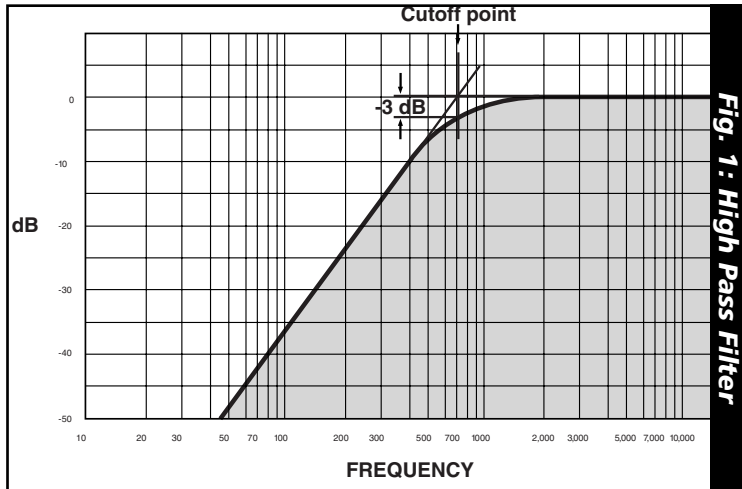

Fig. 1: High Pass Filter
**The High Pass** will roll off the bass of your signal. It will make things sound thinner. (See Fig. 1)